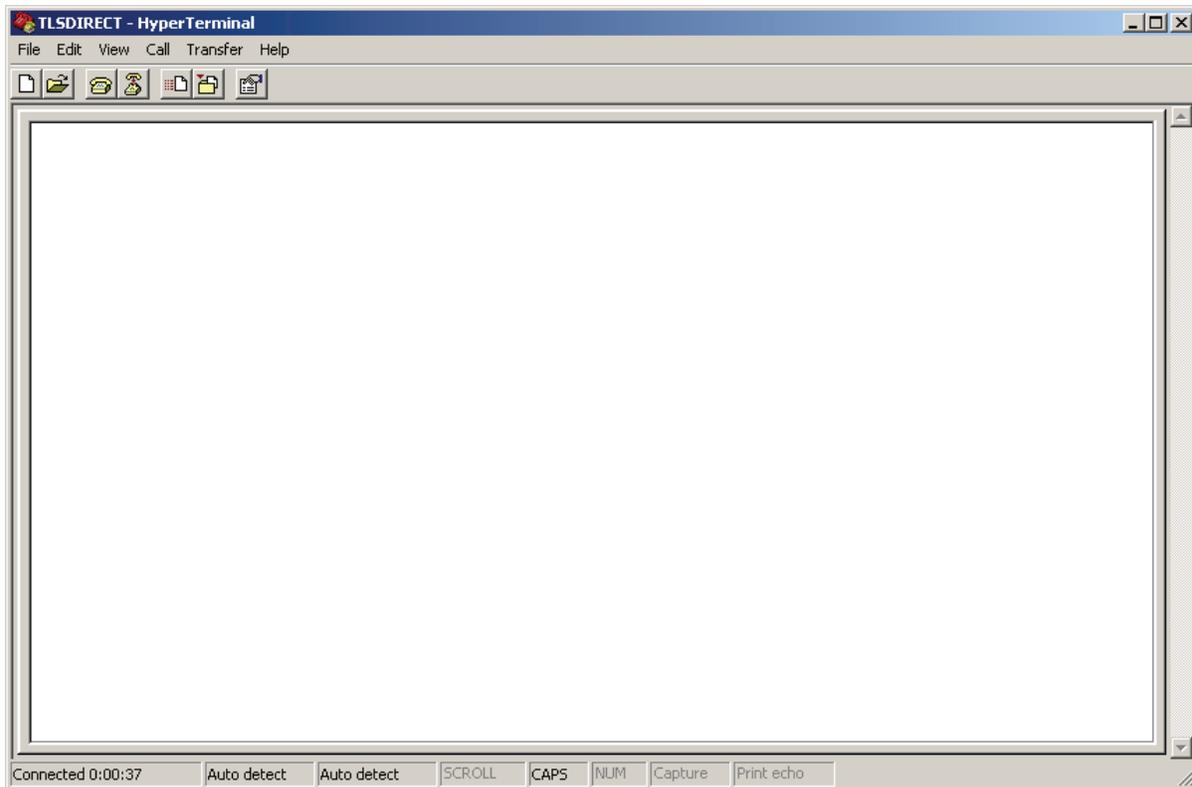

Figure 40. HyperTerminal main window
6. After entering your port settings, the program's main window appears (Figure 40).